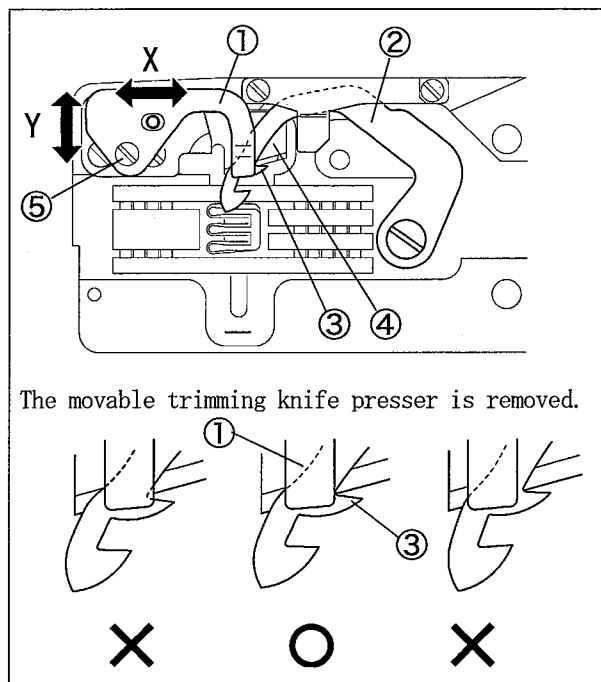

Fig. 31
For the standard position of the thread clamp ①, make adjustment on the direction "X" to align the thread clamp ① with the end of hook ③ on movable trimming knife ②, when the end of the hook ③ on movable trimming ② knife is engaged with the fixed trimming knife ④. (Fig. 31)